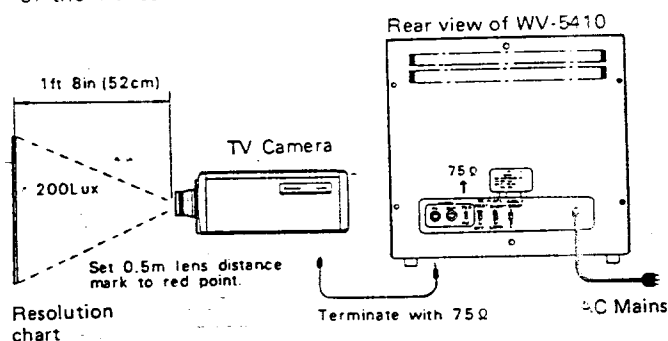

Fig. 2
- Position the resolution chart (YWV1400RB99) in front of the TV camera as shown in Fig. 2.